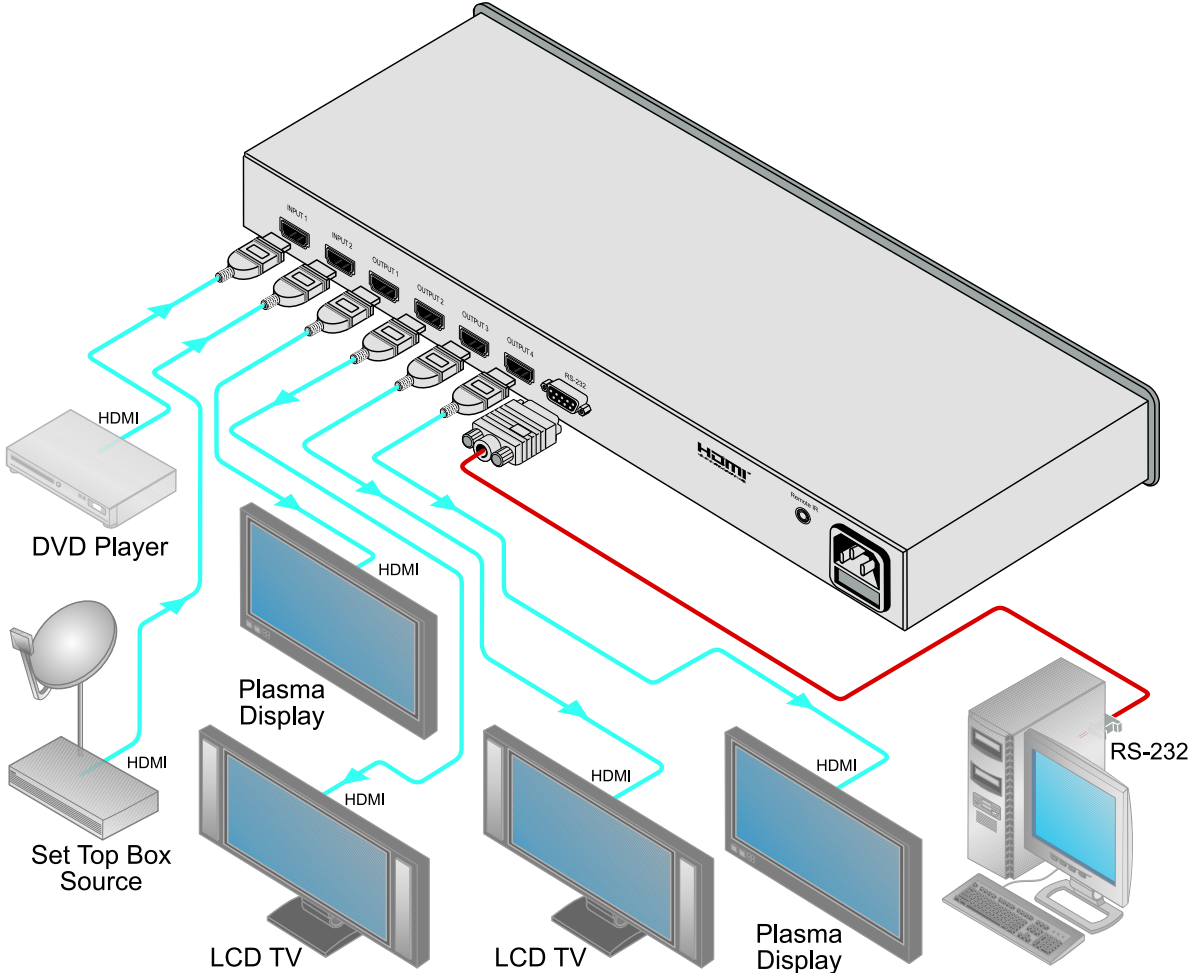

Figure 2: Connecting a VM-24HDMI 2 Input 1:4 HDMI Distributor
To connect the **VM-24HDMI**, as illustrated in the example in Figure 2, do the following1:
4. Connect the power cord to the mains electricity (not shown in Figure 2).
4 Only connections from the first two acceptors and the last two acceptors are shown in Figure 2